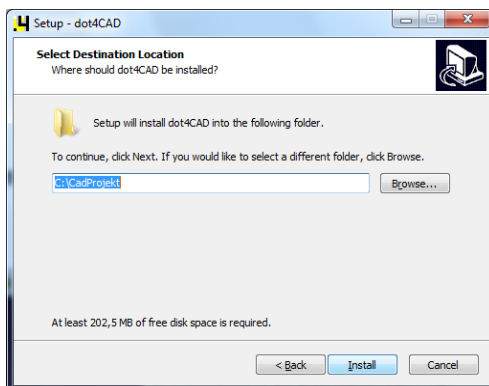

Fig. 40 – selection of the destination location for IntelliCAD
- In the next window (Fig. 40) you can select the location on the computer disk, where the environment is to be installed – by default it is the **dot4CAD** subfolder created in the main folder of CAD Projekt's programs, this is **C:\CadProjekt\**;